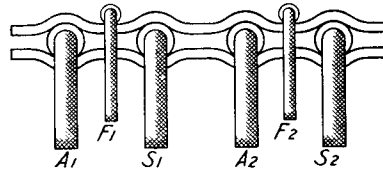

Fig. 6—Diagram of Type SK Motor Terminals
21. **Connections**—Refer to the diagram (Fig. 6) and make the following connections for counterclockwise rotation looking at the commutator end: